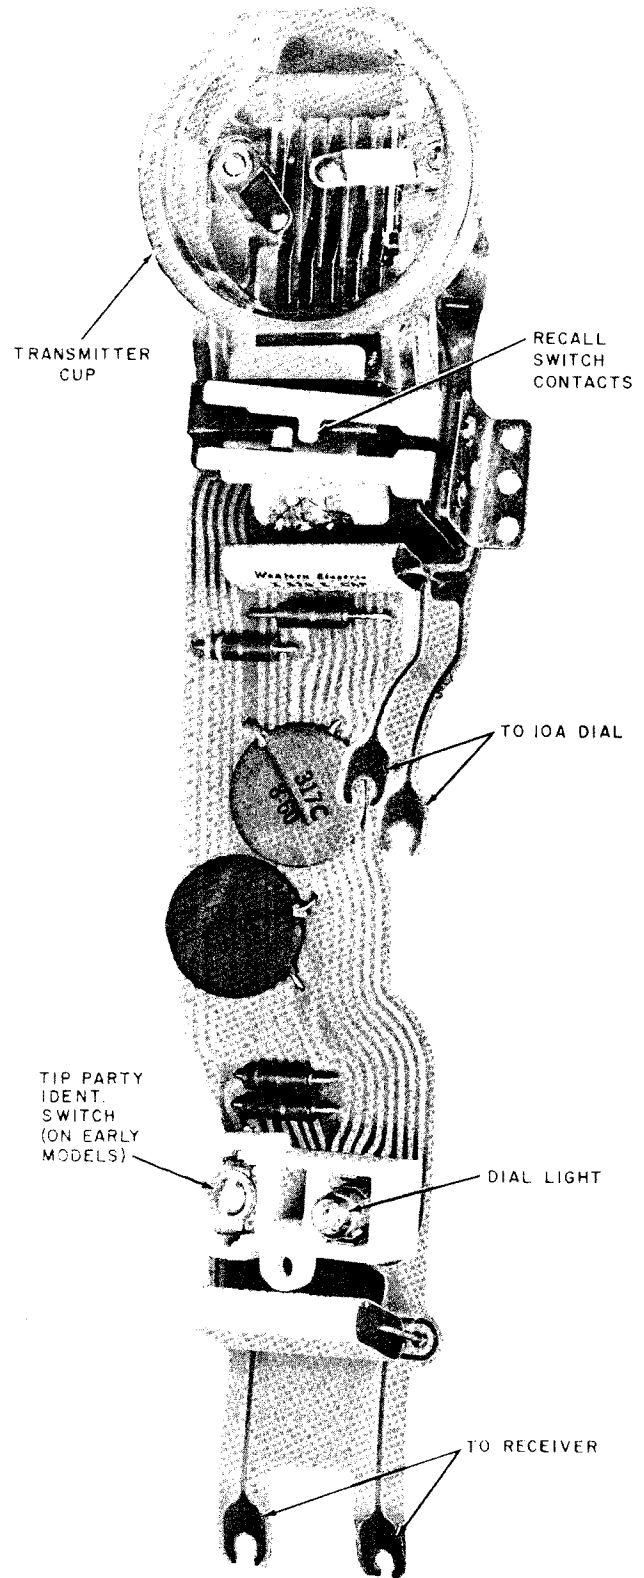
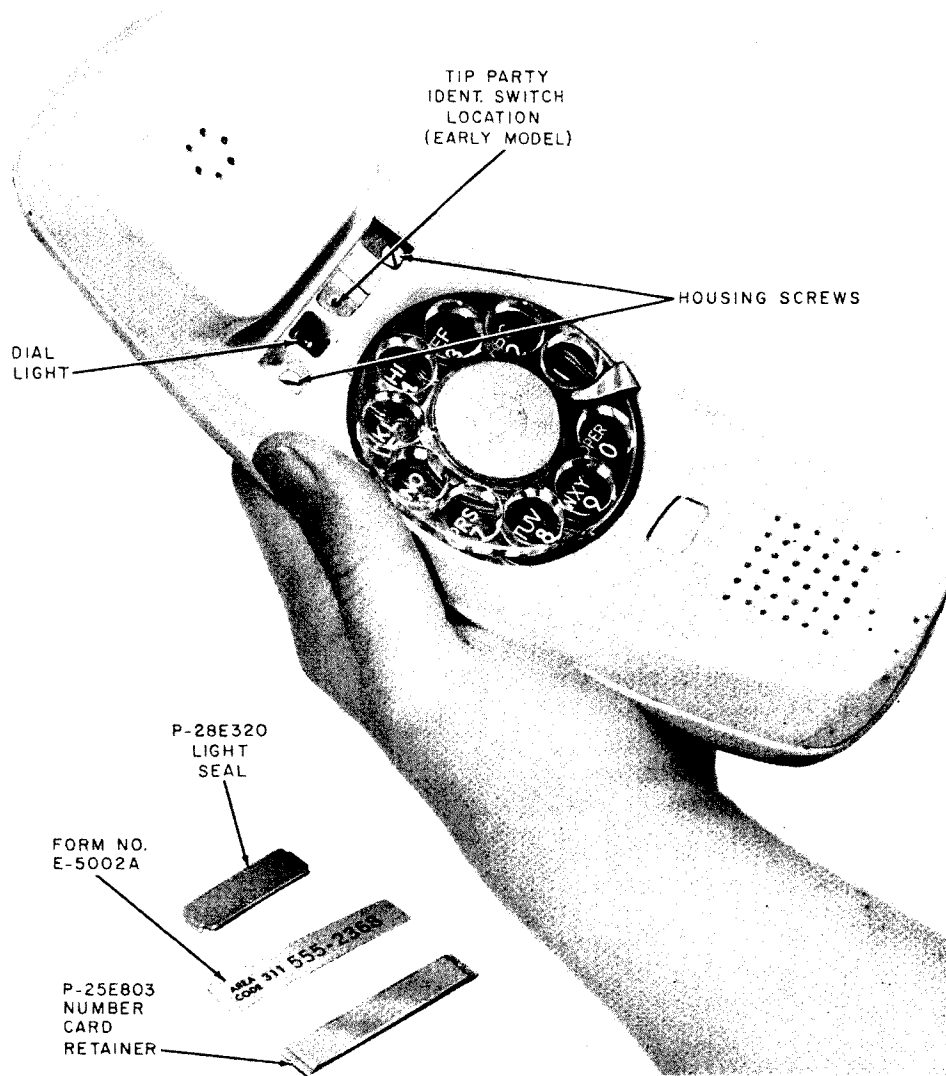

Fig. 4—854A Network
Fig. 5—220A Hand Telephone Set, Number Card Removed
- (2) If tip party identification is required, an H5AA cord must be used. Check under number card window to see that screw used in tip party identification switch is tightened down (early models, Fig. 4). The absence of a screw or screw hole in the identification switch position (Fig. 5) indicates that the connection has been made in the network at the factory. The H4DB and H5AA handset cords are also available in 9- and 13-foot lengths.
4.02 Interior views of 220A and 1220A hand telephone sets are shown in Fig. 9 and 10. Refer to Fig. 5 to remove housing screws concealed under the number card holder and dial light seal.